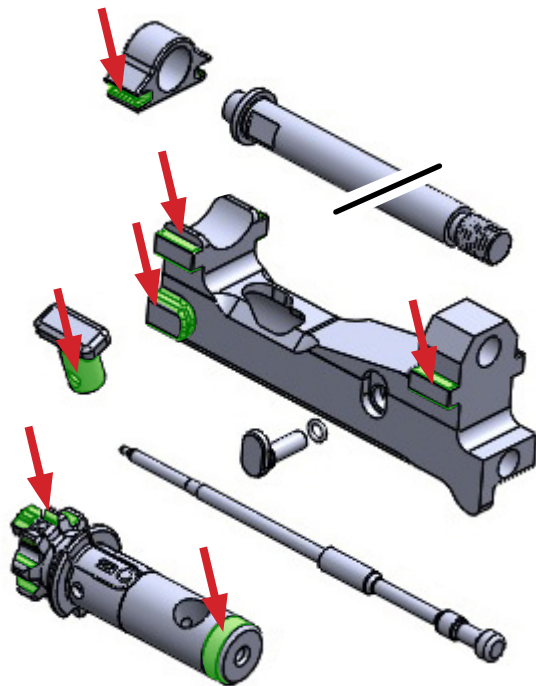

Fig. c-1
2. Apply CLP to the the bolt carrier group (bolt head and bolt lugs, extractor, bolt guide pin, bolt carrier, firing pin, firing pin lock), and allow it to soak for a minute or so. (Fig. c-1)
5. Re-apply CLP to the bolt carrier, bolt body, bolt guide pin, firing pin, firing pin lock, extractor cutout, bottom bolt carrier guides, and spring guide. (Fig. c-1)